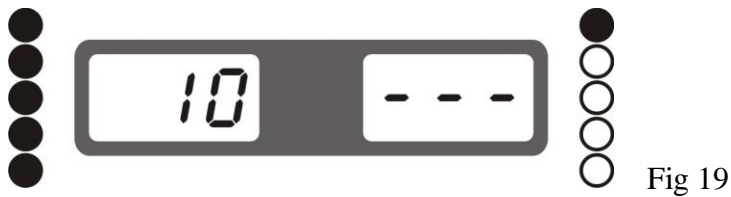

Fig 19
4.5 Anticlockwise push wheel slowly until the inside unbalance indicator light all illness (Fig 19)